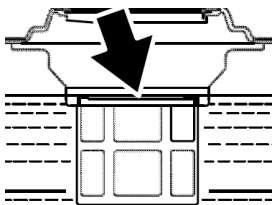

Figure 5: Maximum Petrol Fill Level
6. Slowly add petrol into the fuel tank. Be very careful not to overfill the tank. The petrol level should NOT be higher than the red ring (see Figure 5).